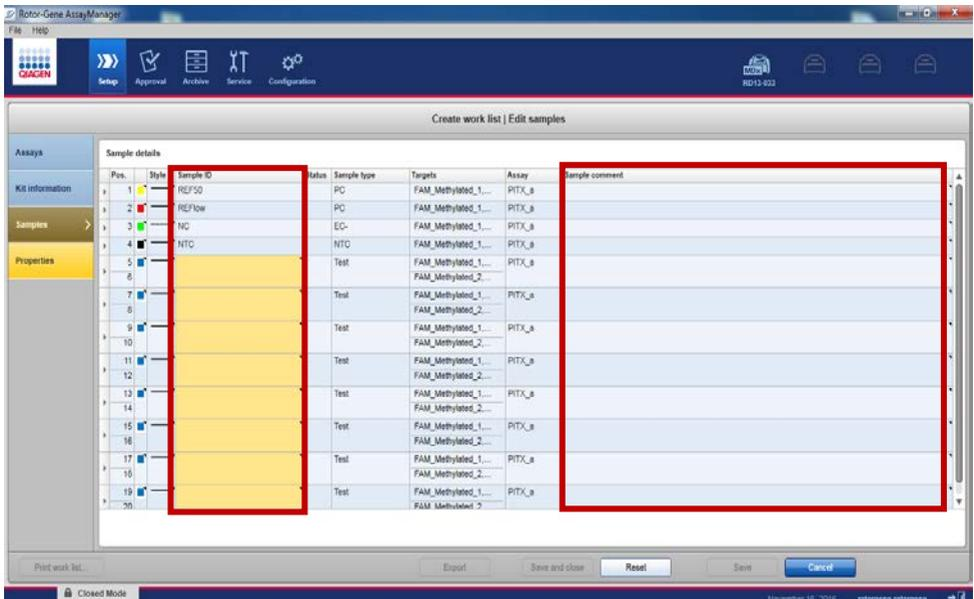

Figure 10. Sample setting.
23. Enter the sample identification as well as any optional sample information as a comment for each sample (Figure 10).